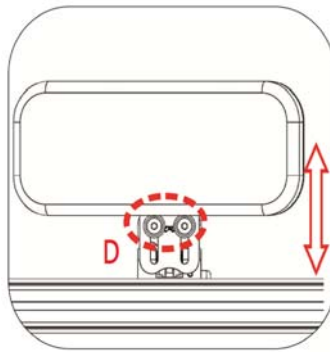

Figure 5-135
5.3.11.6 Use the #4 Allen Key Wrench to loosen the screws D. The hip support pad can be moved up or down. Re-tighten all screws. (Figure 5-135)